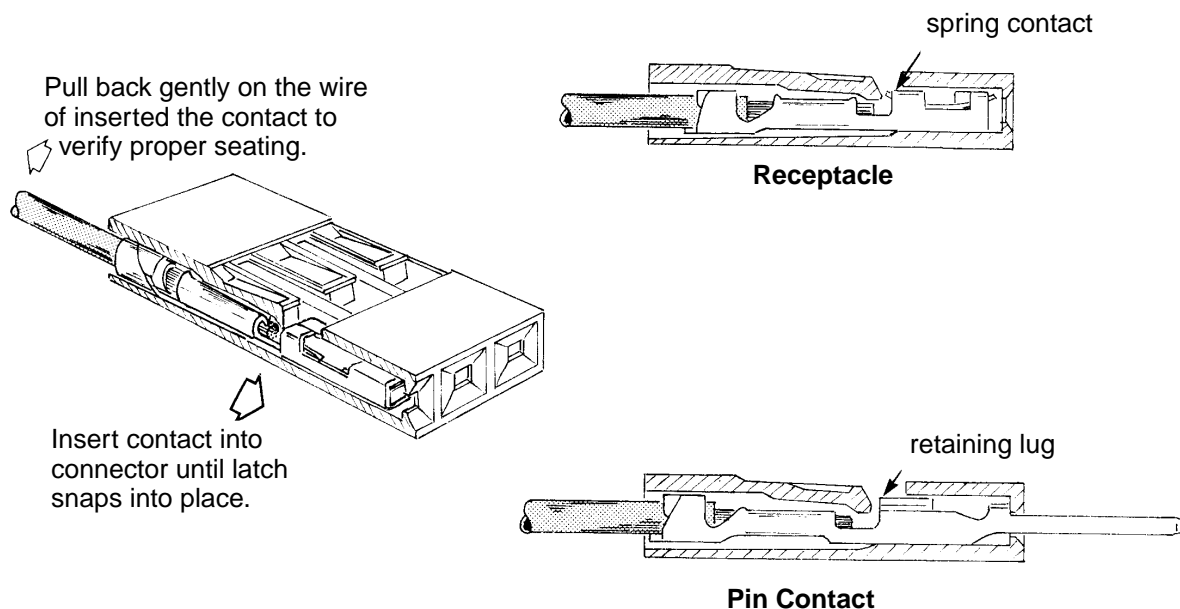

Figure 6 - Assembly of Contacts to Connector
5.4 Assembly of Contacts to Mini-Latch Connectors (See Figure 6)